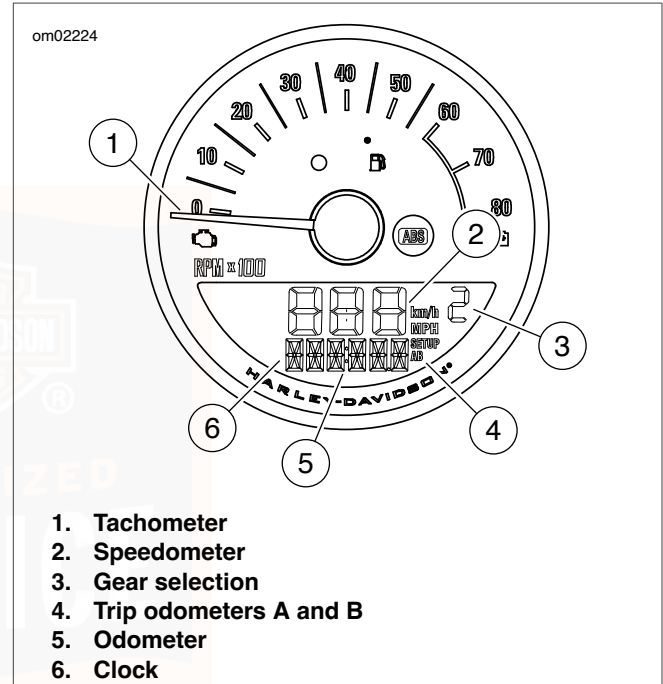

Figure 9. Instruments: XL1200CX
See Figure 9. The sweep needle of the tachometer (1) indicates the engine speed in revolutions per minute (rpm).
See Figure 9. The speedometer (2) registers miles per hour (U.S. models) or kilometers per hour (international models). The display can be changed from mph to km/h. See CONTROLS AND INDICATORS, Odometer Window Settings.
See Figure 9. The currently selected gear number (3) is displayed when the motorcycle is moving. When the transmission is in neutral or the clutch lever is pulled in, the gear number is blank.
See Figure 9. The odometer (5) is located in the speedometer face.
See Figure 9. To check mileage, press and release the trip switch to display either the A or B trip odometer in the odometer window. An A or B (4) identifies the trip odometer.
See Figure 9. Press and release the trip switch to display the clock (6) in the odometer window.